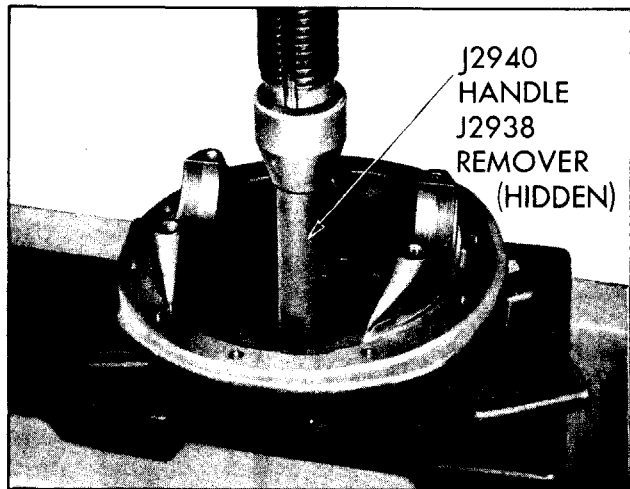

Fig. 4-31 Removing Front Bearing Outer Race With Remover J-2938 and Handle J-2940
11. Wash front bearing inner race in cleaning fluid and examine for damaged rollers or pitted inner race. Clean outer race in carrier and examine for failure. Place inner race in outer race and turn while pressing. If bearing turns smoothly and had no visual defects, do not remove outer race from carrier. If bearing is to be replaced, press outer race from carrier using Remover J-2938 and Handle J-2940 (Fig. 4-31).